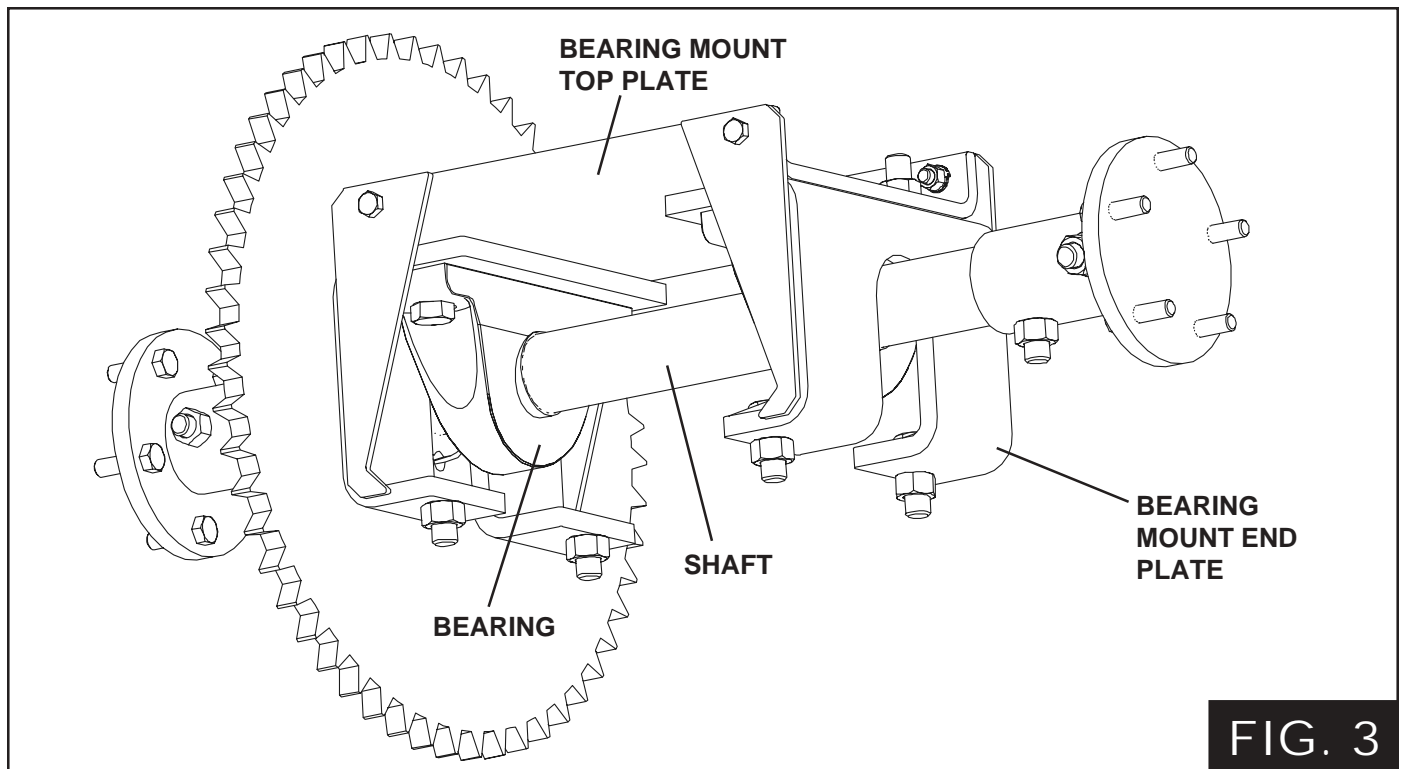

FIG. 3
5. Turn the bearings so the base is facing up before attaching the bearing mount end plates as shown in Figure 3.